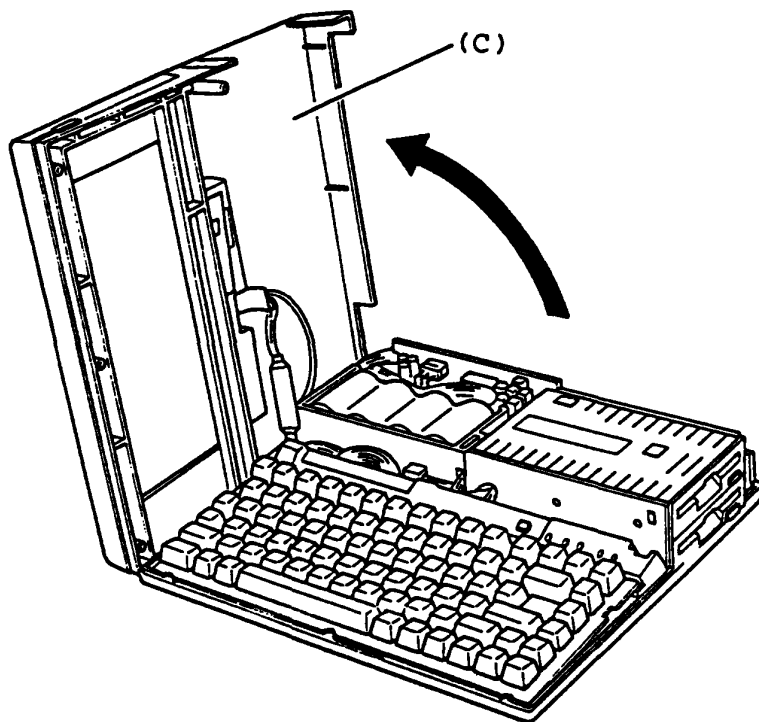

Figure 5-3 Disassemble the Upper Cover
4. Stand the Upper Cover (C) to left side of the System Unit as shown in the figure 5-3.